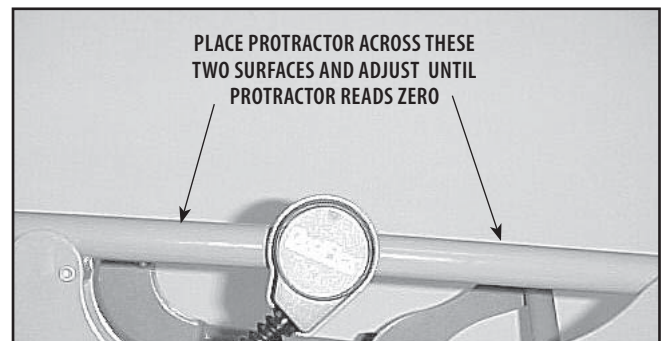

FIGURE 7.4
4. Place the calibrated Protractor with 1° accuracy across the carriage and press the Up and Down Arrow button on the Pendant until the protractor reads zero. Refer to Figure 7.4.